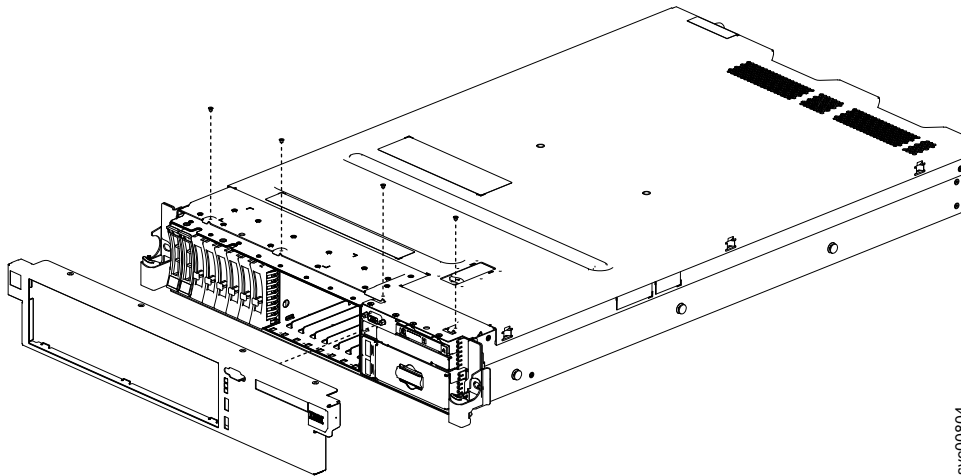

Figure 65. Removing the 2145-DH8 bezel
7. Remove the screws on the top of the bezel, and lift the tabs on the bottom of the bezel out of the slots on the underside of the chassis, as shown in Figure 65.